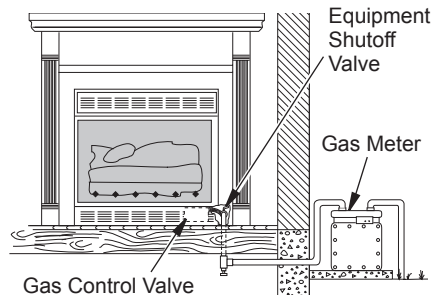

Figure 24 - Checking Gas Joints for Natural Gas
3. Check all joints from gas meter to equipment shutoff valve for natural gas or propane/LP supply to equipment shutoff valve for propane/LP (see Figures 24 or 25). Apply noncorrosive leak detection fluid to all joints. Bubbles forming show a leak.
4. Check all joints from equipment shutoff valve to gas control valve (see Figures 24 or 25, page 16). Apply noncorrosive leak detection fluid to all joints. Bubbles forming show a leak.